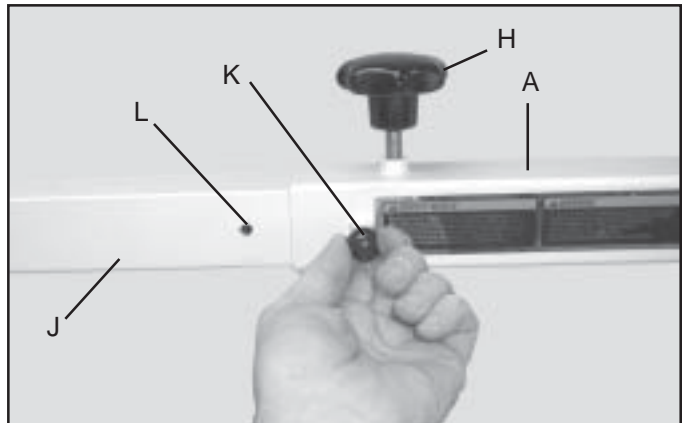

Fig.29
27. The blade guard mount bracket has a stop pin (K) Fig. 29 that engages hole (L) in the blade guard T-Arm. This is to prevent the T-Arm from being completely pulled out of the guard mount bracket (A). If the T-Arm must be removed from the guard mounting bracket, loosen knob (H), slide T-Arm (J) to the left until stop pin (K) engages hole (L). Pull pin (K) and continue to slide the T-Arm out.